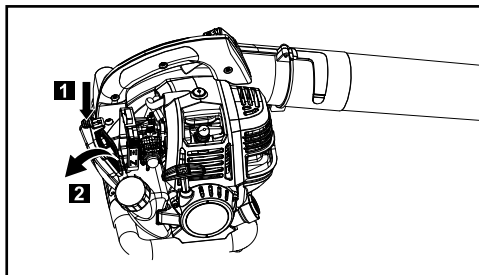
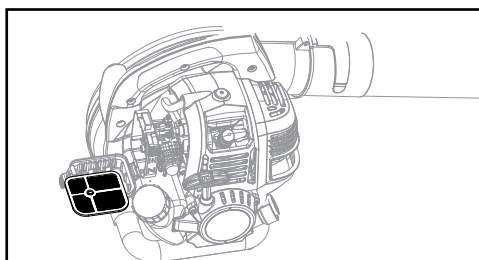

Fig. 5
Fig. 6
2. To clean or replace the air filter, press the release button on the air filter housing, Fig.5 (1), remove the cover (2) and take out the air filter cartridge, Fig.6.